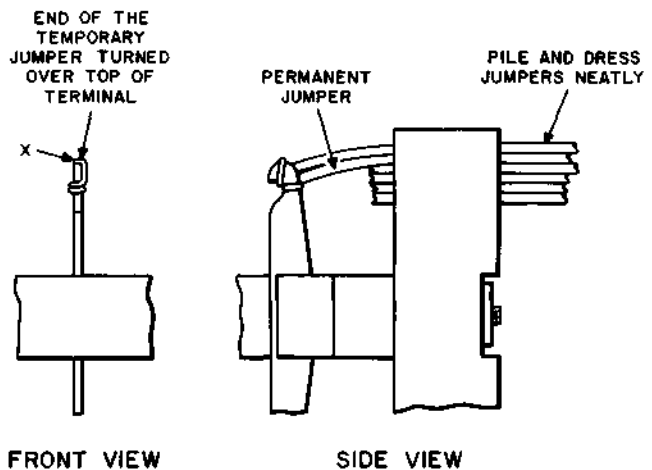

Fig. 16—Temporary Cross-Connections on No. 35 or Similar Type Terminal Strip Without Back Notch Terminals
12.07 Connect the temporary jumper as shown in Fig. 16. Bring the wire along the top of the permanent jumper through the notch, up, and across the top of the terminal. Solder the connections to the terminal, being careful not to leave any excess solder. Then cut off the excess wire of the temporary jumper close to the terminal at the point "X".